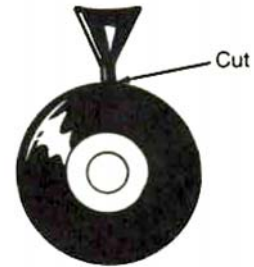

Figure 10
- 7.3 Trim off excess compound from filler spout by cutting off at base. (Figure 10)